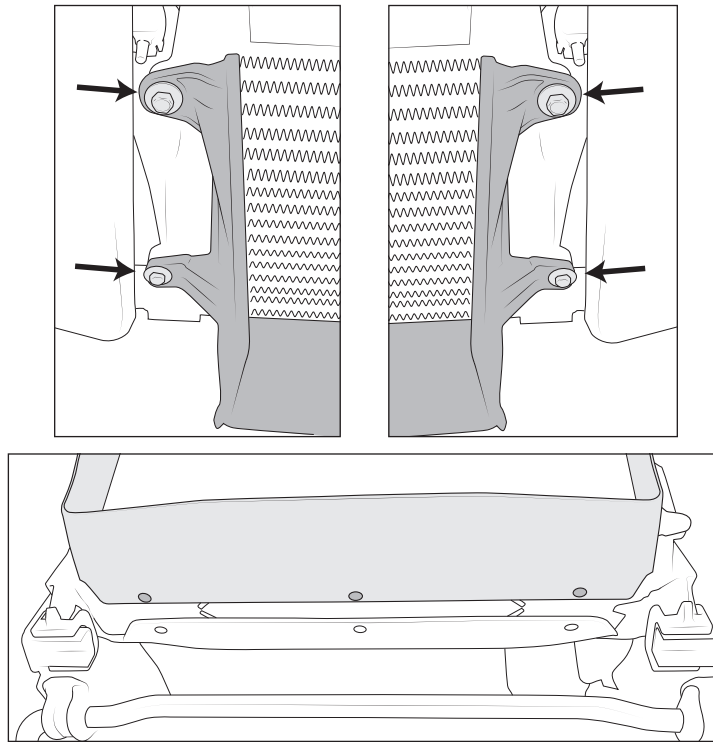

Figure 6
6. **For Diesel Trucks:** Remove the front intercooler shroud. **SAVE** hardware for later use (fig. 6).